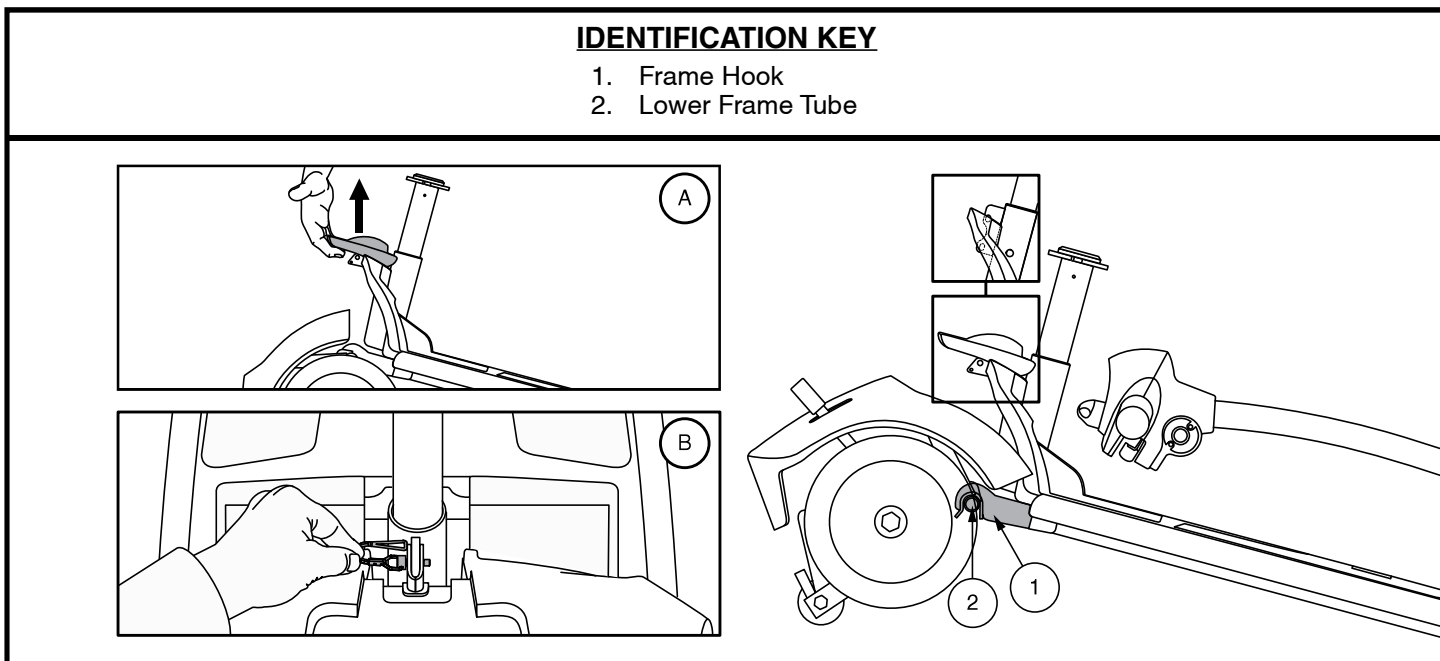

Figure 33. Frame Release Lever (Style A) and Frame Release Lock-up Pin (Style B)
4. Slowly separate the two sections of the Travel Scooter. See figure 33.
**NOTE:** Before attempting assembly, tilt the rear half of the Travel Scooter slightly back on the anti-tip wheels as shown in figure 33.
1. Use the frame release lever (or the seat post for models 29, 36, 336, 83, and 84 only) to lift the front section as you align the frame hooks of the front section with the lower frame tube of the rear section. See figure 33.
2. Once the frame hooks are over the lower frame tube, lower the front section and pivot the rear section simultaneously. This will engage the frame lock-up automatically for models AAP4, 39, 40, 44, 40LX, 40X, 44X, 40E, 44E, 44LX, 49, 50LX, 50LXLIT, 53, 53HD, 54, 54LX, 54LXLIT, 54HD, 66, 67, 73, 74, and Jazzy ZTS. For models 29, 36, 336, 83, and 84, you will also need to reinstall the frame lockup pin to complete the body assembly. See figure 33.